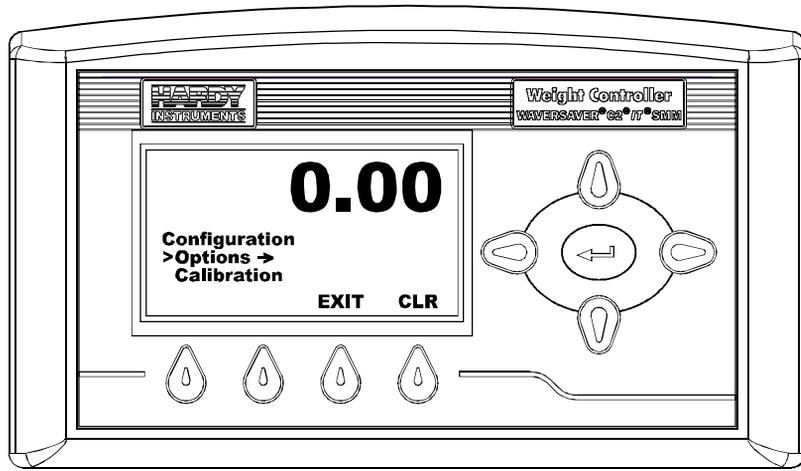

FIG. 137 CONFIGURATION/SELECTING OPTIONS
- Step 4. Press the down arrow until the cursor is in front of Options. (See Fig. 137)